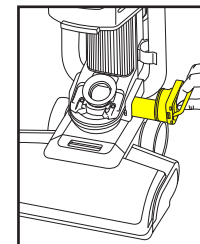

fig. 9
5. With the unit stood upright, remove the cartridge by flipping the handle down (fig. 9.), then pulling it out sideways.